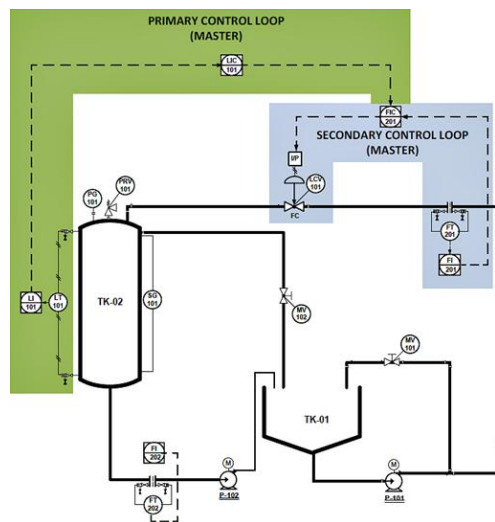

Figure 1: Non-interacting process plant
Figure 1 shows a non-interacting process plant in industry.
- (a) Describe the control system as in **Figure 1**. (2 marks)
- (d) State **one (1)** advantage of this type of control system refer to **Figure 1**. (2 marks)
- (f) State **four (4)** important manipulated variables in process control (4 marks)